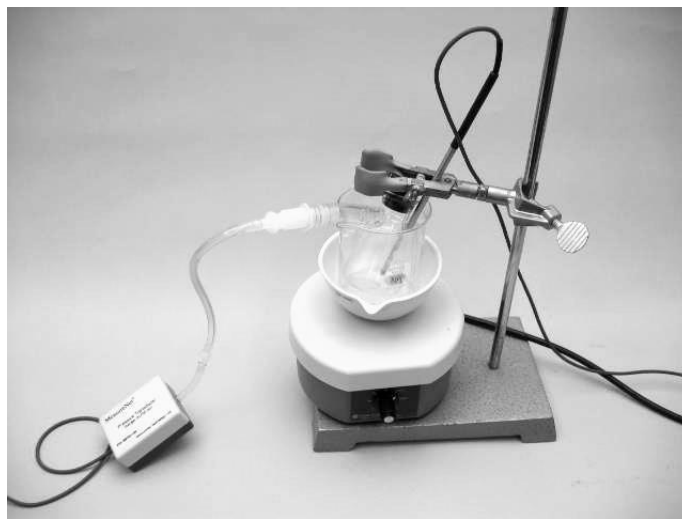

Figure 12-3. Setup for P-T Measurements.
FIGURE 12-3 shows a diagram of the apparatus for measuring pressure as a function of temperature. A filter flask with a side-arm is fitted with an air-tight rubber stopper; the arm is connected with tubing to the pressure sensor which, in turn, is connected to the MeasureNet station. The filter flask is clamped in a 250 mL beaker that is filled with water so as to immerse the flask as completely as possible. The temperature probe connected to the MeasureNet station is also immersed in the water.
5. Set up the apparatus to make pressure-temperature readings as in **FIGURE 12-3**. Place an evaporating dish on top of a stir plate which is set on a ring stand, and place the 250 mL beaker containing water in the evaporating dish. Place a magnetic stir bar in the beaker, then place the 50 mL filter flask in the beaker. Place the clamp **over** the flask so that the flask is submerged in the water as completely as possible. If the beaker is not completely filled with water at this point, add some more hot water. Remove the syringe from the stopcock, and turn the stopcock arm one full rotation so that the pressure is released from the system and the arm marked **OFF** points toward the opening where the syringe was. This will ensure that your pressure readings will begin at around zero; as the experiment proceeds, the pressure reading values will decrease and eventually become negative. At this point, the pressure inside the flask is less than the atmospheric pressure; this will help minimize the effect of any small leaks remaining in the system. Insert the temperature probe through the clamp into the water so that the tip is just below the bottom of the filter flask, but above the bottom of the beaker.